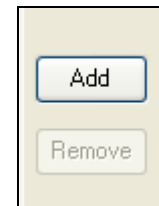

Figure 13.0.5
3. To add controllers to the “**Controllers to poll**” window highlight the controllers one at a time in the “**Controllers you are getting rain from**” window and click on the **Add** button (Figure 13.0.5).